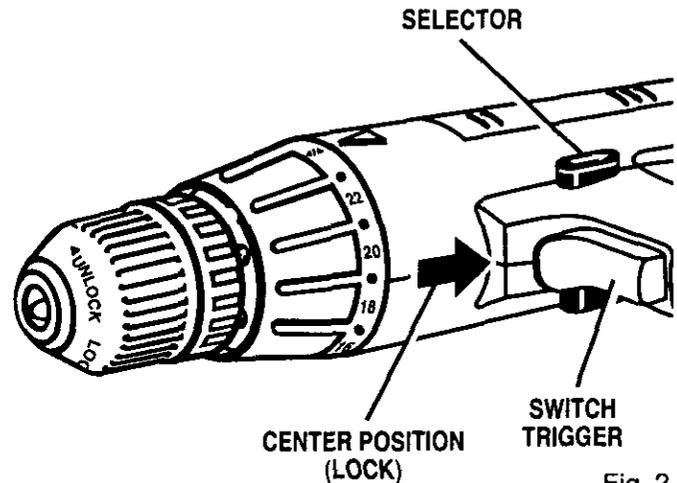

Fig. 2
*See Figure 2.*
- Lock switch trigger on your drill by placing the direction of rotation selector in center position. See Figure 2.